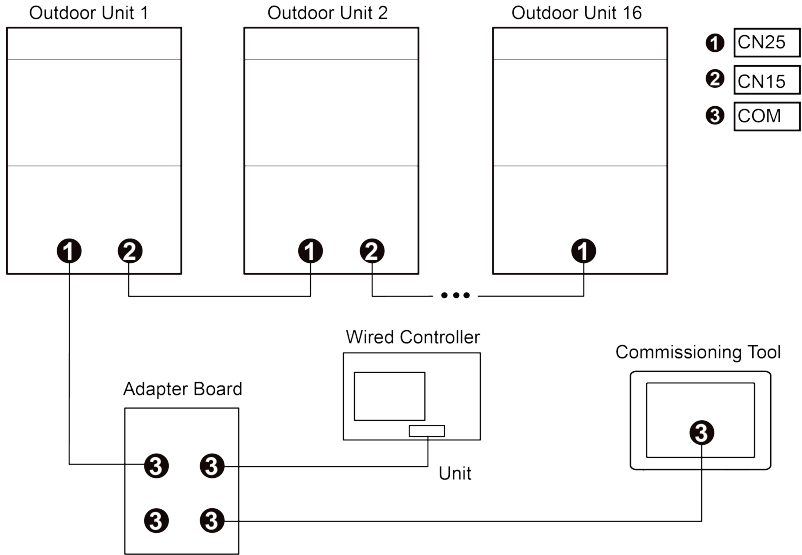

Fig.2.9 Connected with RS485 Water Heater Unit Network
- (1) This product is applicable to RS485 water heater unit, which can be connected to the unit network through the wired controller;
- (2) When the product is connected to the network through the wired controller, connect according to Fig.2.9. During connection, one end of the 4-core long connection wire is connected with COM interface of this product, and the other end is connected to the adapter board of the product. The adapter board is connected to the Unit interface of the wired controller through the 4-core short connection wire. The communication line originally connected to the Unit interface is plugged into any of the 4-core connectors of the adapter board.